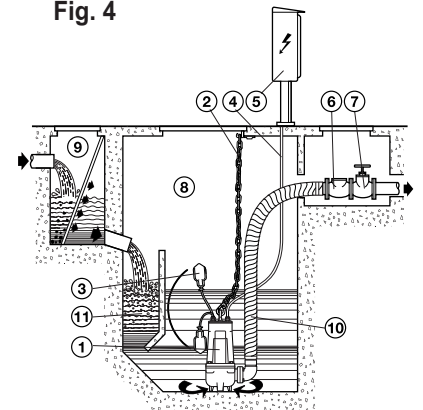

Fig. 5
5.2.1 INSTALARE MOBILĂ (FIG. 5)